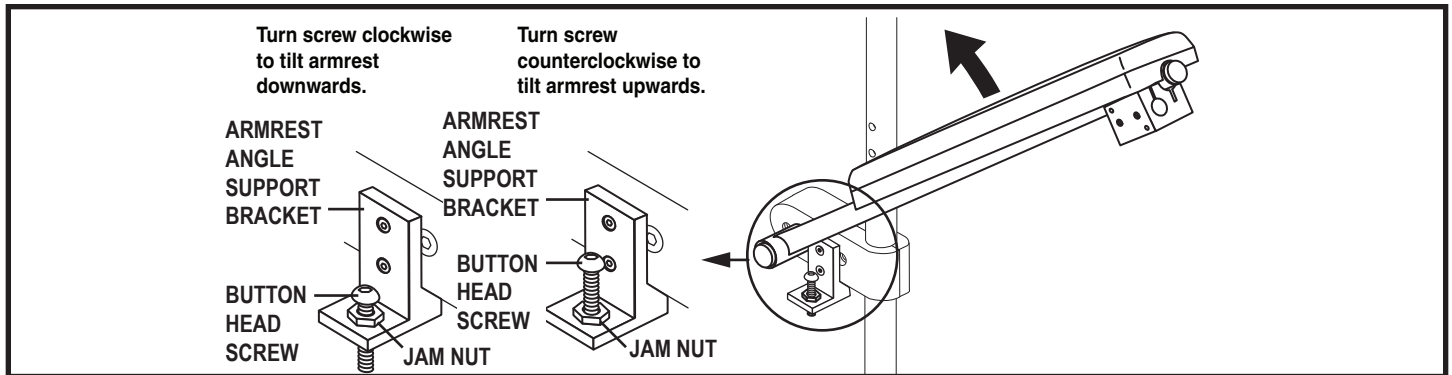

Figure 19. Flip-Up Armrest Angle Adjustment
2. Loosen the jam nut located on the armrest angle support bracket. **See figure 19.**
3. Loosen or tighten the button head screw located on the armrest angle support bracket. Loosening the button head screw will increase the armrest angle; tightening the button head screw will decrease the armrest angle. **See figure 19.**
4. When the screw has been positioned to the proper angle, tighten the jam nut. **See figure 19.**
3. Remove the button head screw and jam nut from the armrest angle support bracket. **See figure 19.**
9. Reinstall and tighten the button head screw to the armrest angle support bracket, then tighten the jam nut. **See figure 19.**